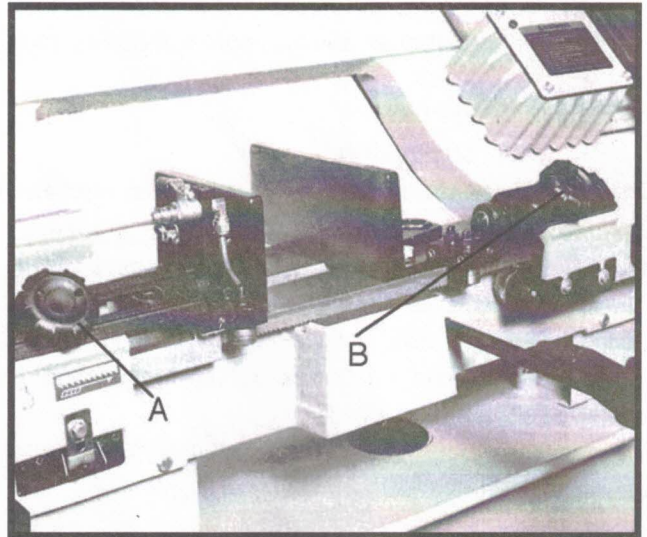

Fig. 8
2. Loosen knob (A, Fig. 8) and bolt (B). Slide blade guide assemblies as close as possible to the material without interfering with the cut.
3. Tighten knob (A) and bolt (B) and connect machine to the power source.